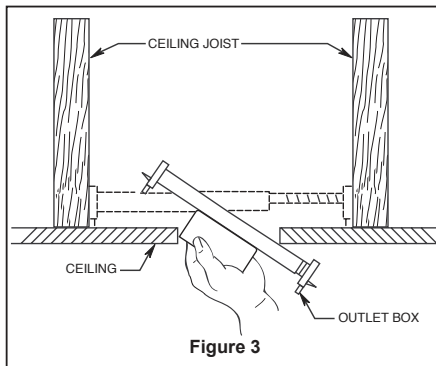
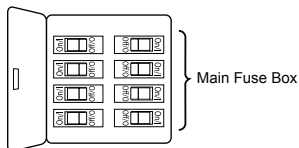
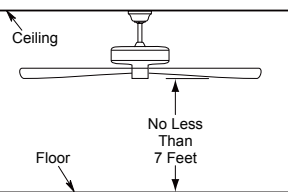

Figure 3
Figure 1
Figure 2
Your new ceiling fan will require a grounded electrical supply line of 120 volts AC, 60 HZ, 15 Amp Circuit. Electrical code requires use of a fan-rated outlet box to support the extra weight and motion associated with a ceiling fan. A fan-rated box will be labeled as such and typically supports up to a 70lbs ceiling fan. Fan-Rated Outlet Boxes vary in ratings and design. Ensure the ratings of your ceiling fan outlet box meet the requirements for the ceiling fan being installed. Figure 1, Figure 2 and Figure 3 depicts different structural configurations that may be used for mounting the outlet box.
Low-profile use (Figure 1)
Deep-profile use (Figure 2)
Brace use (Figure 3)
1. Remove the hanger ball portion from the downrod/hanger ball assembly by loosening the set screw in the hanger ball until the ball falls freely down the downrod. Remove the pin from the downrod, then remove the hanger ball. Retain the pin and hanger ball for reinstallation in Step 6. (Figure 1)
2. Remove the hairpin clip and clevis pin from the bottom of the downrod. Retain the pin and clip for reinstallation in Step 4. (Figure 2)
3. Loosen the two set screws and locking nuts in the downrod support of the motor assembly. Route the brown, blue, red, gray and yellow wires through the downrod. (Figure 3)
1. Align blade holes with posts on the motor assembly flywheel. Make sure the blade is fully seated against the flywheel. Place blade plate over the blade with holes aligned and assemble blade to flywheel using pan head screw with lock washer. Fully tighten the screws that attach the blades to the motor assembly flywheel. (Figure 1)
To avoid possible fire or shock, be sure electricity is turned off at the main fuse box before hanging. (Figure 1)
The fan must be hung with at least 7' of clearance from floor to blades. (Figure 2)
- ☐ 1. To set the code on receiver unit, slide dip switches to the same positions as set on the remote control. (Figure 1)
To avoid possible electrical shock, be sure electricity is turned off at the main fuse box before wiring. (Figure 2)
- ☐ 1. Assemble canopy by rotating key slot in canopy over shoulder screw in hanger bracket and care not to pinch the wires. Tighten shoulder screw. Fully assemble and tighten second shoulder screw that was previously removed. (Figure 1)
- ☐ 2. Securely attach and tighten the canopy screw cover over the shoulder screws in the hanger bracket utilizing the key slot twist-lock feature. (Figure 2)
- ☐ 1. Remove one of the three screws in the support bracket at the bottom of the motor assembly. Retain the screw for later and slightly loosen the remaining two screws. (Figure 1)
- ☐ 2. Assemble the switch housing assembly to the support bracket using the two key slots in the switch housing assembly. Replace the previously removed screw and securely tighten all three screws. (Figure 2)
- ☐ 1. **IMPORTANT:** Using a full range dimmer switch (not included) to control fan speed will damage the fan. To reduce the risk of fire or electrical shock, do not use a full range dimmer switch to control the fan speed. (Figure 1)
- ☐ 2. Restore electrical power to the outlet box by turning the electricity on at the main fuse box. (Figure 2)